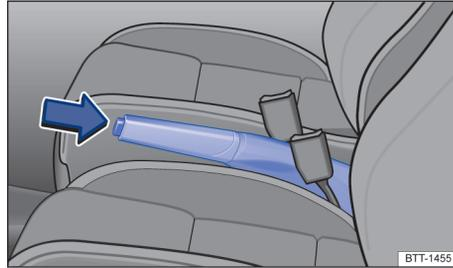

Fig. 115 Between the front seats: Parking brake.
- Pull the lever up slightly and press the release button → fig. 115 (arrow).